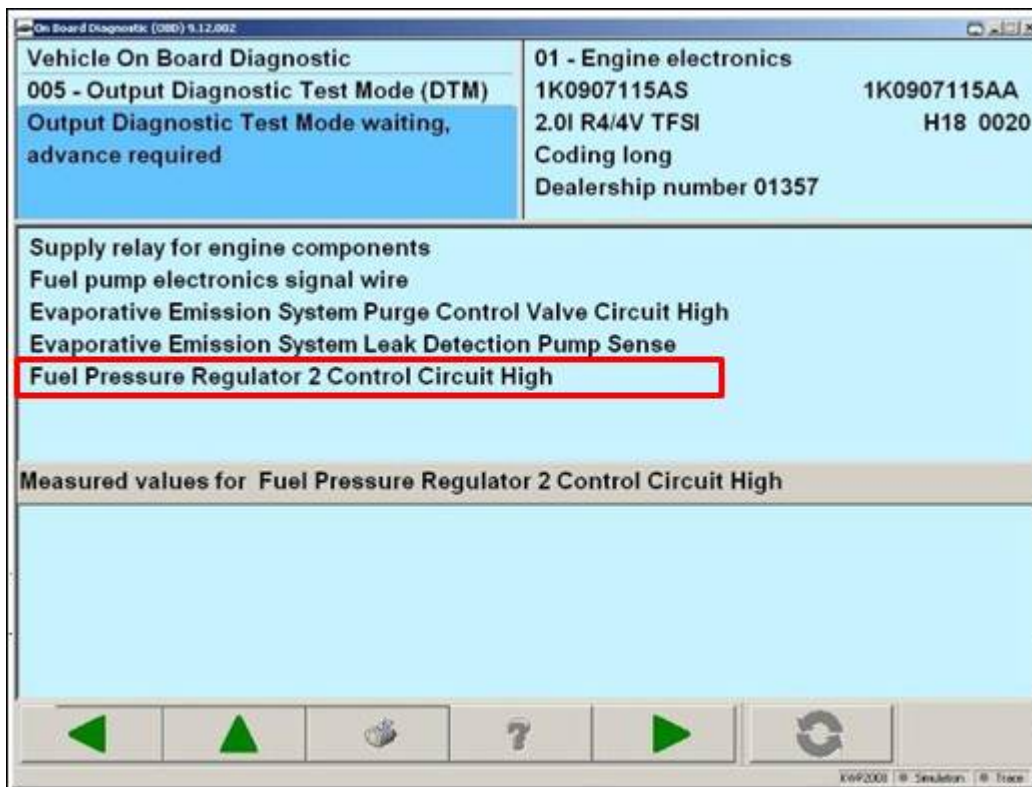

Figure 1
- When the test starts to check operation of the “fuel pressure regulator 2 control circuit high” (figure 1), listen for an audible “click” sound coming from the N276 pressure regulator.